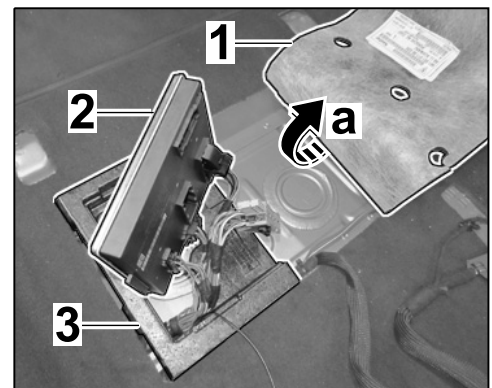

Figure 16
- 2.5.2 Fold up the carpet ⇒ *Figure 16-1-* (⇒ *Figure 16-a-*).